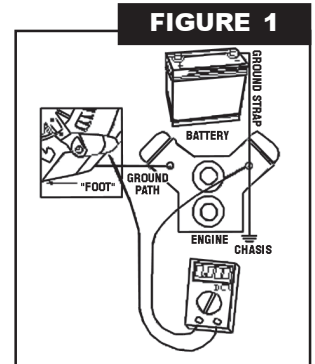

FIGURE 1
- ◆ Apply a moderate load to the charging system (i.e., high beam headlights and A/C for example) and bring the engine to 1,500rpm. Using a digital voltmeter measure the DC voltage from the a bare metal point on the case of the alternator to the negative battery terminal. Readings higher than 0.10VDC indicate a poor ground connection. Check the ground path including any paint or anodizing on the brackets, the engine ground strap, and the ground cable from the frame to the battery. (See figure 1).